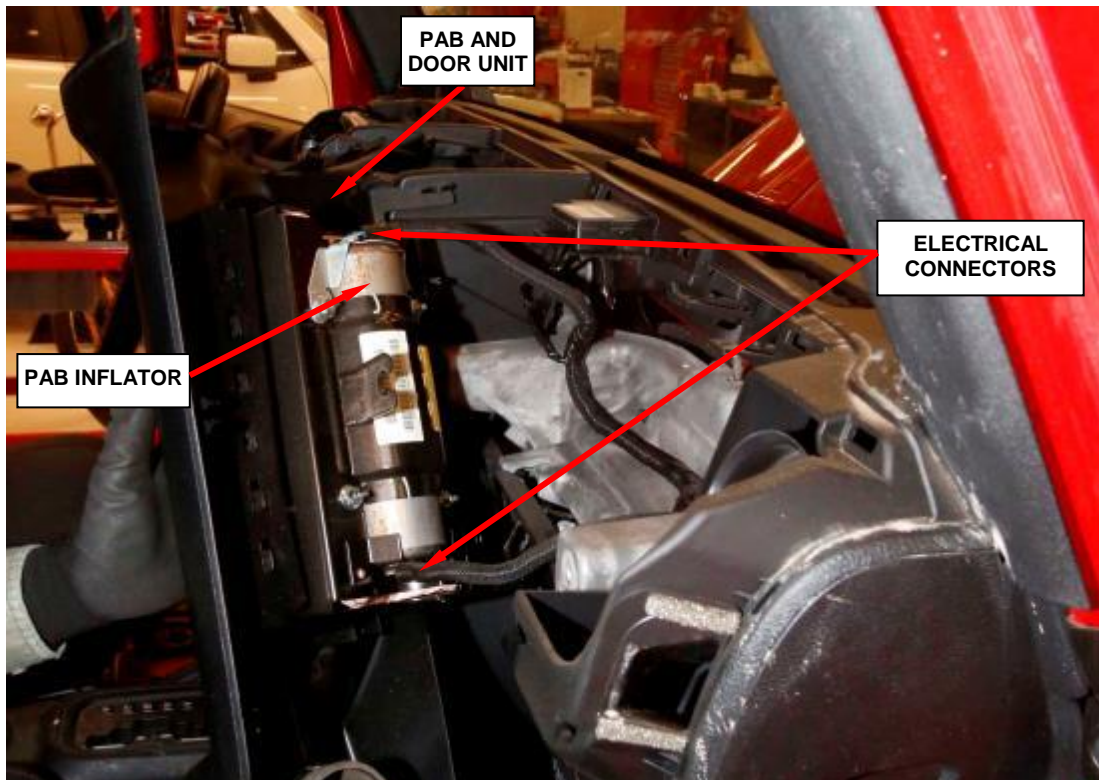

Figure 98 – Electrical Connectors
28. Grasp the lower edge of the PAB door and pull the door and PAB unit rearward far enough to access the two instrument panel wire harness connections to the PAB inflators at each side of the PAB housing (Figure 98).
29. Disconnect the two panel wire electrical connectors from the PAB inflators. Firmly grasp and pull the lock straight out from the connector insulator, then pull the insulators straight out from the inflator to disconnect them from the connector receptacles (Figure 98).